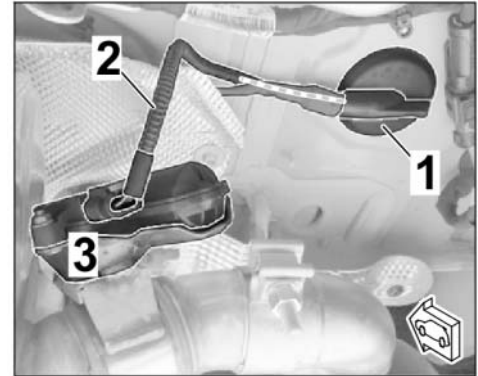

Figure 22
3.3.4 **ONLY** if a grommet with several lines is installed on the underside (including an exhaust flap branch (left/right of the standard rear silencer) ⇒ *Figure 22*):